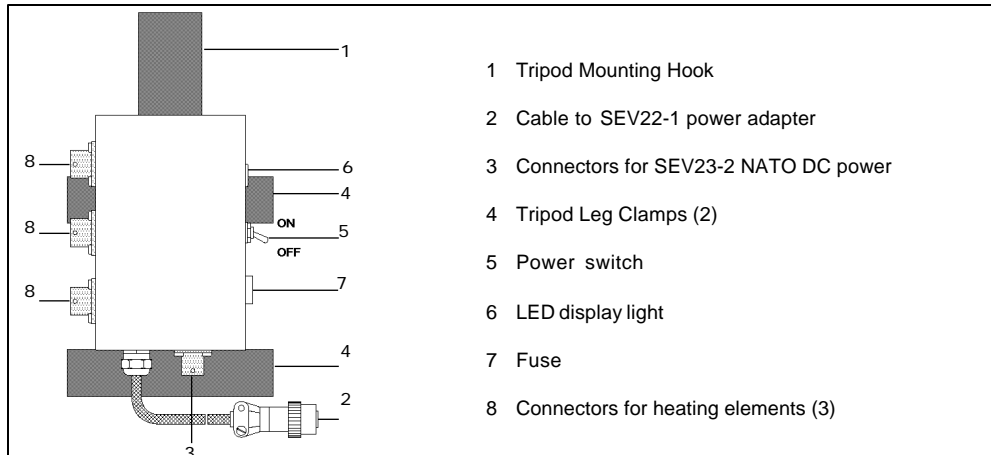
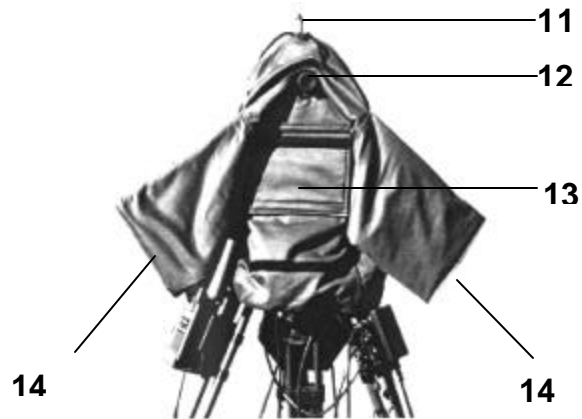

Figure 2-10. Power Supply Distribution Box
Figure 2-11. Winterization Kit Mounted
- e. Connect the SKK3-08 gyroscope upper and lower housing heating element cables and the theodolite heating element cable to the connectors (8) on the power supply distribution box (Figure 2-10). Connect cable (2) from the Power Supply Distribution Box to the SEV22-1 Power Adapter Mounted on the gyroscope.
- f. Mount the upper insulation cover over the theodolite (Figure 2-11). Pull the cover over the theodolite, inserting the target rod through the opening at the top of the cover (11). Align the window (13) to provide an unobstructed view of the display and keyboard. Align the opening for the telescope eyepiece (12) over the telescope eyepiece. Secure the openings for the telescope objective and laser exit window on the back side of the instrument over the telescope objective. Secure the upper insulation blanket in place with the pull cord.
- g.** Connect the SEV23-2 NATO DC power cable to the connector (3) located on the power supply distribution box as shown in Figure 2-10. Connect the NATO slave adapter on the power cable to the NATO connector on the vehicle. Move the power switch (5) on the power supply distribution box to the ON position. Verify the LED display light (6) is illuminated. This will indicate the system is operating properly. Operate the GLPS as in normal operations through the two sleeves (14) as shown in Figure 2-11.